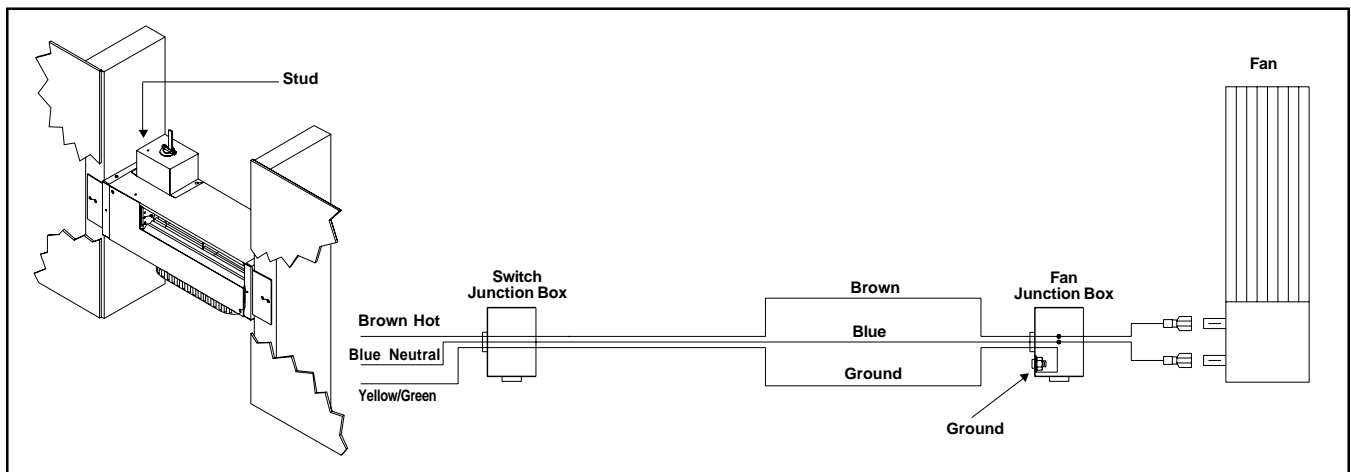

Figure 6
7. Wire 240 VAC service TO the wall switch and FROM the wall switch to the fan junction box. Use wire connectors to secure the 240 VAC service wires to the hot and neutral fan wires and screw the 240 VAC ground wire to the fan junction box. See Wiring Diagram - Figure 6.